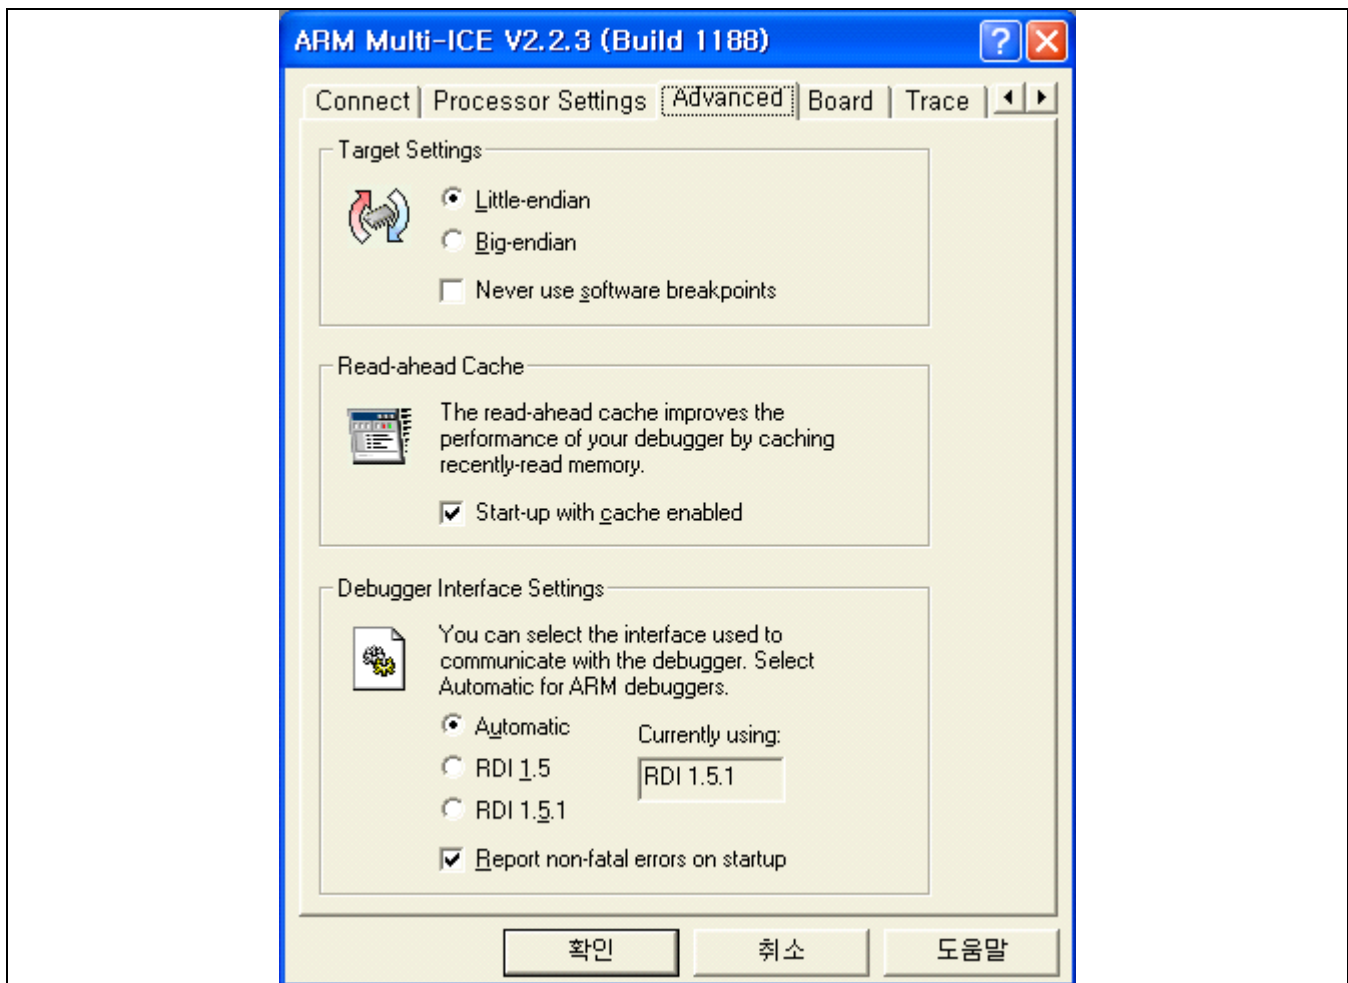

Figure 2-12. Debugger Configuration: Advanced Page
5. Select Advanced from Debugger Configuration dialog box (See Figure 2-12) and configure it.